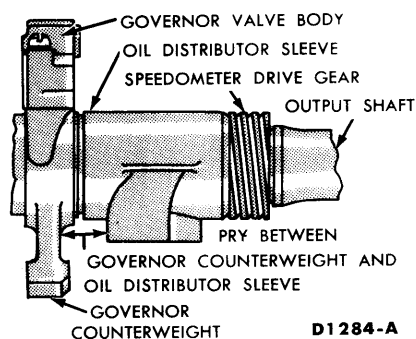

FIG. 25—Pressure Apply Area for Removing Speedometer Gear
5. With the output shaft assembly on the bench, remove the oil distributor tubes from the sleeve. Remove the speedometer drive gear snap ring from the shaft. Pry the oil delivery sleeve toward the rear of the shaft with a hammer handle. Make certain to apply pressure on the governor counterweight, and not against the governor valve body. (Fig. 25).